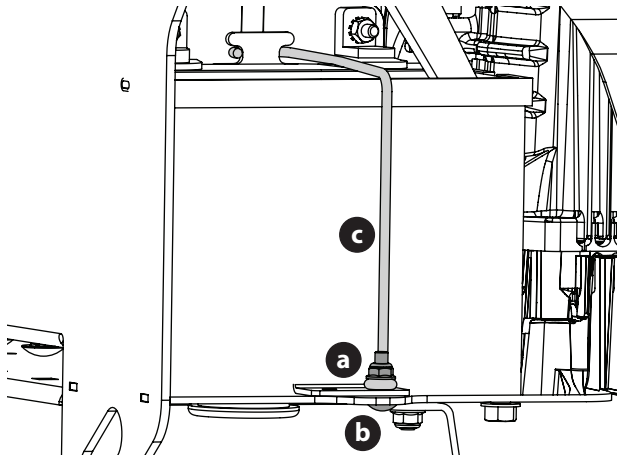

Figure 11
1. Remove the flange lock nut (a) and carriage screw (b) holding the battery hold-down bracket (c) in place (Figure 11).